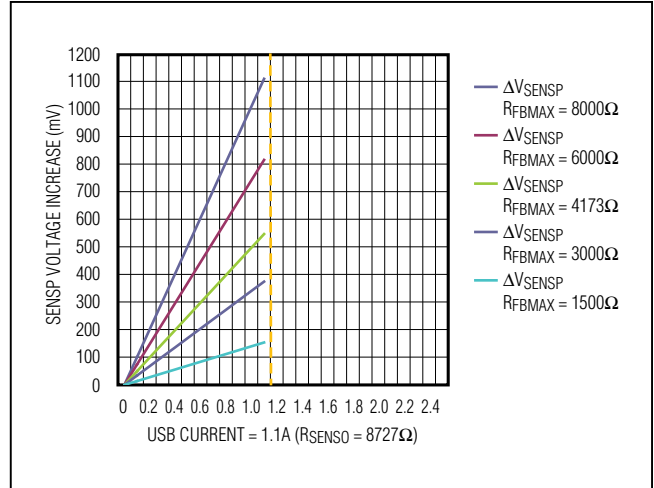
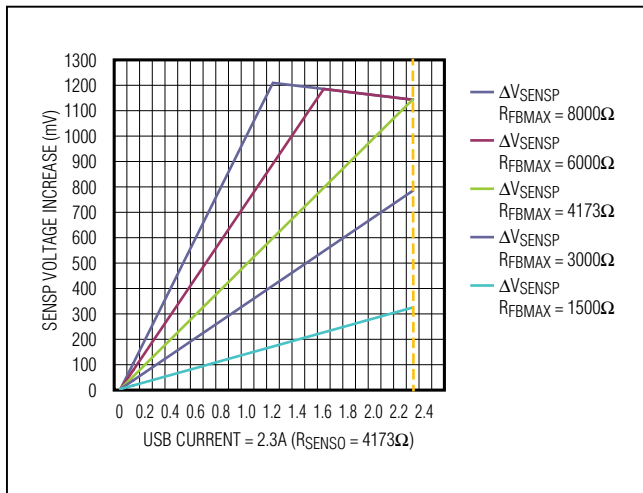

Figure 10. Increase in $SENSE$ vs. USB Current
Figure 9. Increase in $SENSE$ vs. USB Current
- Determine the setting needed for FBPER. This selects the $SENSE$ Analog Adjustment Gain (A_{SENSE}) to increase the DC-DC converter for the application and minimizes/optimizes the DC-DC adjustment range. See Figure 9 and Figure 10.